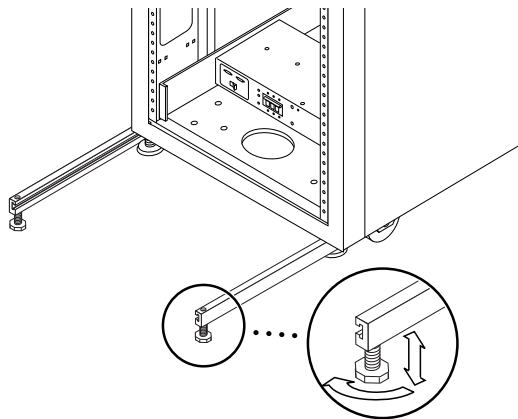

FIGURE 2-4 Adjusting the Leveling Pads on the Stabilizer Leg
6. Use the leveling wrench to adjust the feet on both stabilizer legs so that they touch the floor (FIGURE 2-4).